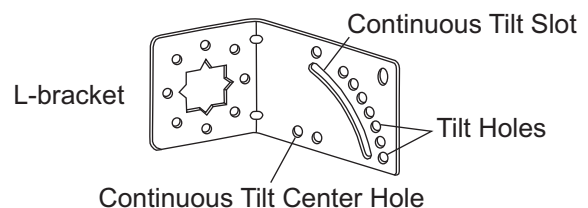

Figure 4
4. If vertical tilt of the antenna is required, use only one mast clamp and U-bolt with the fixed tilt holes which provide elevation in 10° increments. (Not recommended under high wind conditions.) For continuous tilt adjustment, use the slot to secure the antenna to the desired elevation (Fig. 4).